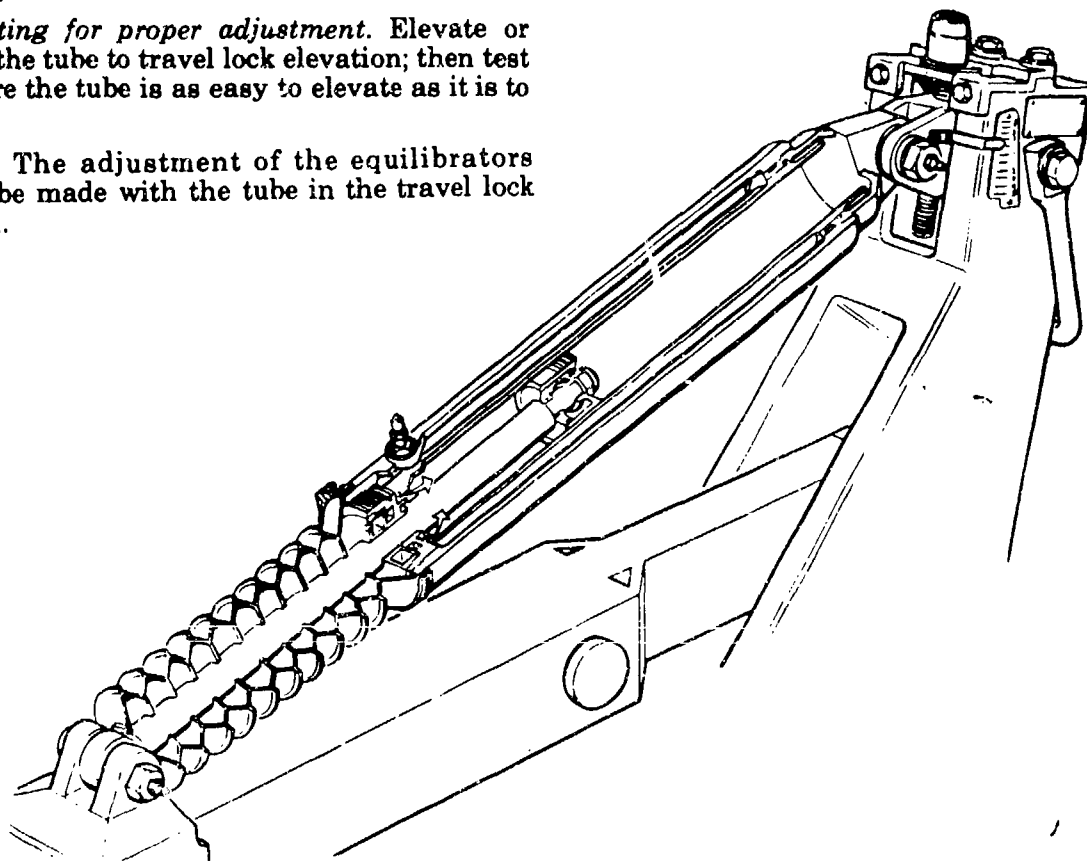

Figure 6-9. Equilibrator assembly--internal components.
*a. Purpose.* The equilibrators (fig 6-9) compensate for the unbalanced weight of the tube caused by the rear mounted trunnions and reduces the manual effort required to elevate the tube.